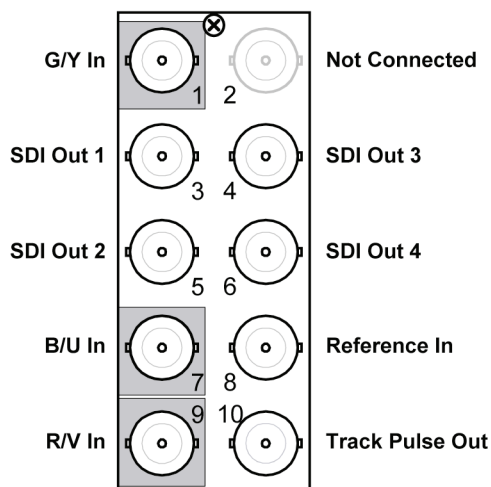

Figure 3. Cable Connections for the R1-8733 and the R2-8733 Rear Modules
- **R1-8733** Rear Module — Each card occupies one slot and provides four SD-SDI outputs, one tracking pulse output, and a reference input. Connect cables according to **Figure 3**.
- **R2-8733** Full Rear Module — Each card occupies two slots and provides four SD-SDI outputs (**Figure 3**). Ensure that the ADC-8733A card is installed in an even slot number.